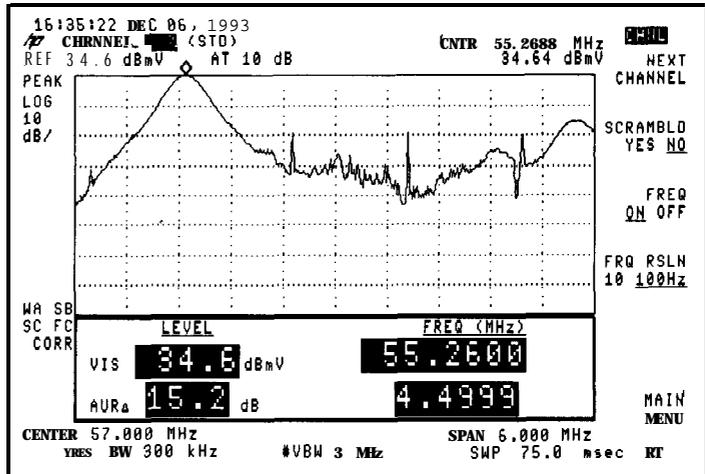

Figure 2-7. Carrier Frequency Measurement (100 Hz Resolution)
2. Press **FREQ ON OFF** to underline ON. The visual carrier frequency and visual-to-aural carrier frequency difference appear on the screen. See Figure 2-7.